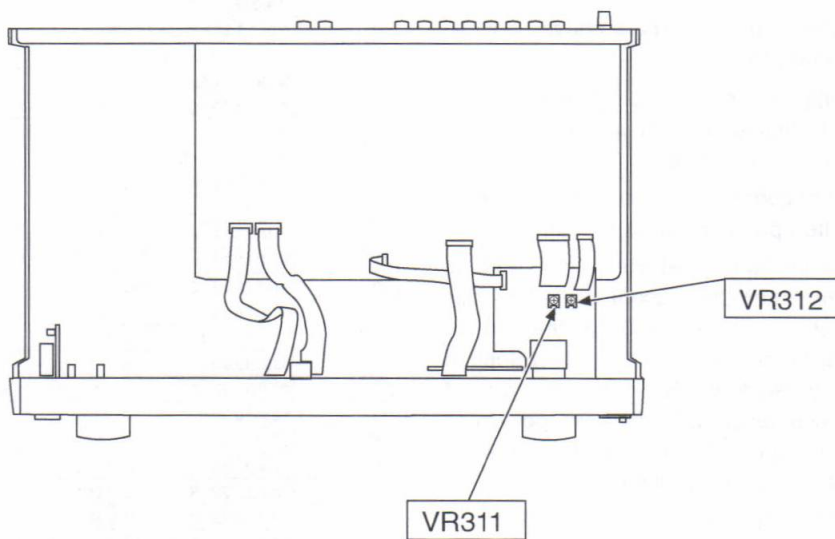

Fig.3
6. Adjust **VR311** (L ch) and **VR312** (R ch) so that the output voltage to AC 1.00 V±0.2 dB. Shown in Fig.3